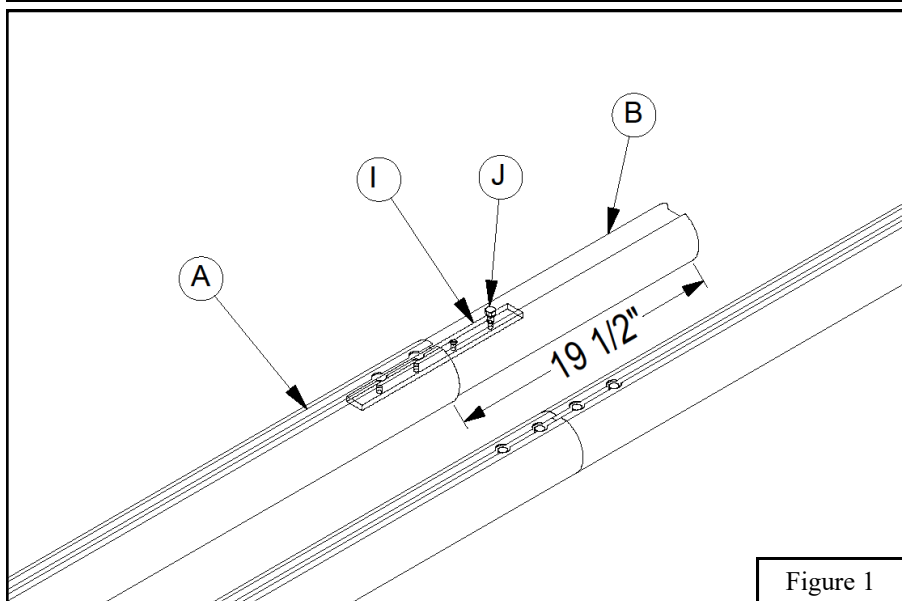

Figure 1
1. Place two *Crossbar Sections* (A) end to end with the rear net attachment track facing upward. Insert the *39" Inner Connecting Tube* (B) approximately 19 1/2" into the end of one *Crossbar Section* (A) Use *Connecting Bar* (I) and *3/8" X 1" Hex Bolts* (J) to complete assembly of 2 piece crossbars as shown. See Figure 1.